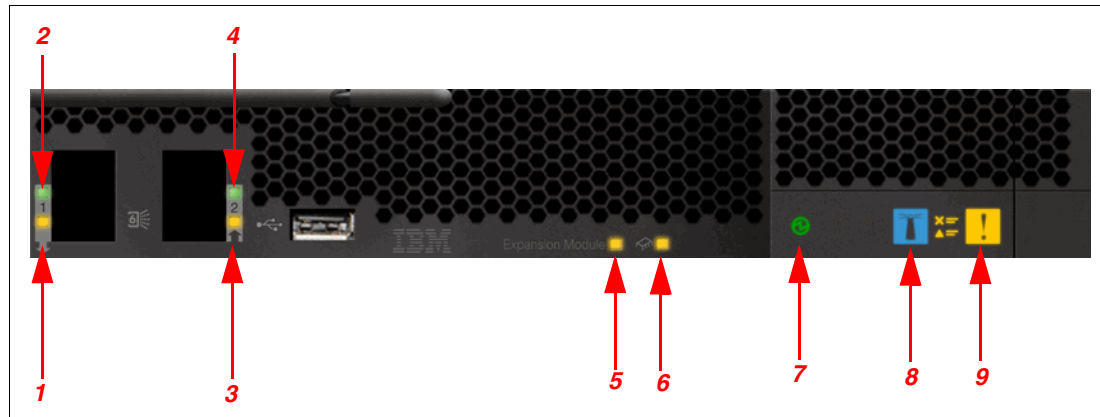

Figure 13-3 Expansion enclosure LEDs layout
IBM Flex System V7000 expansion enclosure includes two expansion canisters that are located in the rear of the expansion enclosure. The expansion canister has no controls and does not include battery unit. Figure 13-3 and Table 13-7 show expansion canister LEDs you can use to determine the system state and appropriate actions to take to resolve the issues.
1. Start by considering the states of the power LED 7 for each 4939 expansion canister, as shown in Figure 13-3 on page 530 and Table 13-9 on page 532. Continue to troubleshoot the canister until the power LED is ON.